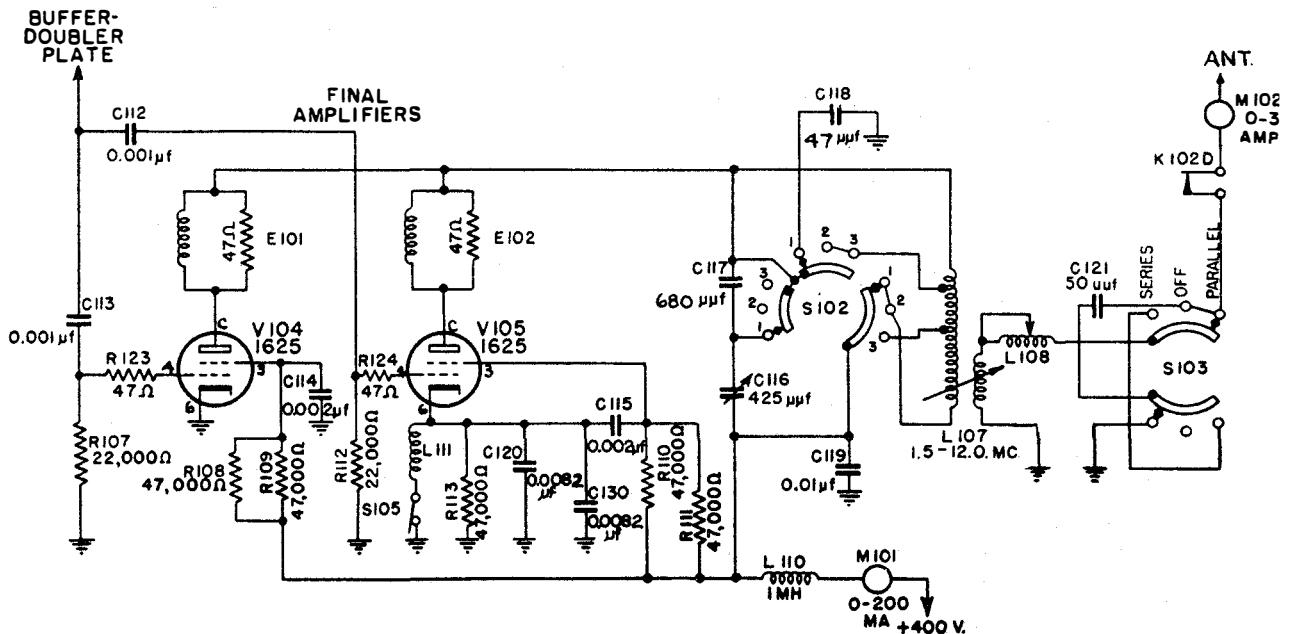

Figure 2-8 Transmitter Final-Amplifier and Antenna-Coupling Circuits
c. FINAL AMPLIFIER. (See figure 2-8.)—The final amplifier employs two type 1625 tubes V104 and V105 operating as Class-C amplifiers in a parallel-connected circuit. Grid resistors R107 and R112 supply the necessary bias. Both tubes are used in CW, but only one in VOICE transmission. When the VOICE-CW switch S105 is in the "VOICE" position, only V104 is operative; V105 is disabled by an open filament circuit and a high resistance R113 in its cathode circuit. The output stage operates as a straight amplifier on all frequencies. A direct-current
*e. OUTPUT CIRCUIT.* (See figure 2-8.)—The output circuit consists of a tank inductor L107. The PLATE TUNING capacitor C116, and the padding capacitors C117 and C118. This combination will tune over the entire frequency range of the transmitter. The taps of the tank inductor and the padding capacitors are so arranged that a favorable L/C ratio is maintained throughout. BAND SWITCH section S102, which is ganged to BAND SWITCH section S101, selects the proper tap and padding capacitor for each band of frequencies.